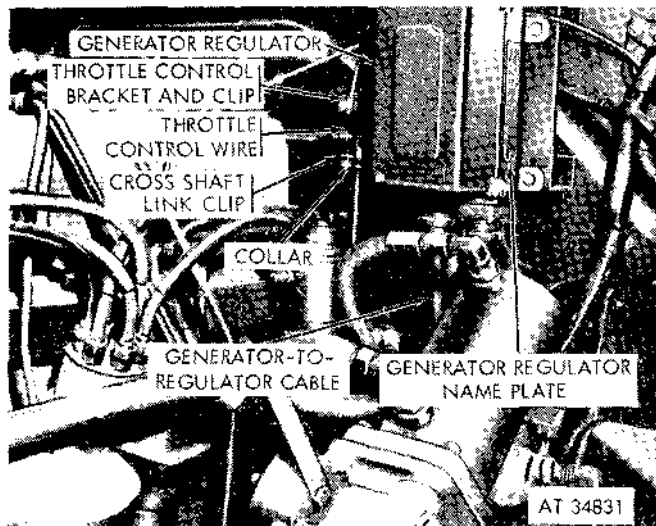

Figure 2-67. Top right section of cab cowl.
- (1) Adjust the accelerator linkage (para 2-67).
- (2) Loosen the screw securing the collar (fig. 2-67) to the throttle control wire.
- (3) Position the collar on the throttle control wire. Maintain a clearance of approximately one-eighth inch between the top surface of the collar and the underside of the cross-shaft link clip when the throttle valve plate lever is in the idling position, and the throttle control knob is in against the instrument panel as far as it will go.
- (4) Tighten the throttle control wire collar screw.
(1) Loosen the screw securing the collar (fig. 2-67) to the throttle control wire and remove the collar.
(2) Loosen the nut and bolt securing the throttle control supporting the bracket clip to the supporting bracket, and remove the control from the clip.
(3) Pull the free end of the throttle through the rubber bushing in the cab cowl and into the cab.
(4) Remove the jamnut and lockwasher from the throttle control at the back side of instrument panel, and pull the throttle control from the front of the instrument panel.
(1) Insert the throttle control in the hole in the instrument panel and install the lockwasher and jamnut on the throttle control at the back side of the instrument panel. Position the throttle control knob so that the lettering on the face of the knob is in a vertical position, and tighten the jamnut.
(2) Push the free end of the throttle control through the bushing in the cab cowl.
(3) Position the control under the throttle control-supporting bracket clip, push the control wire through the hole in the forward end of the cross-shaft link clip, and tighten the nut and bolt securing the clip to the supporting bracket (fig. 2-67).
(4) Install the collar (fig. 2-67) on the control wire, and adjust the throttle control (a above).